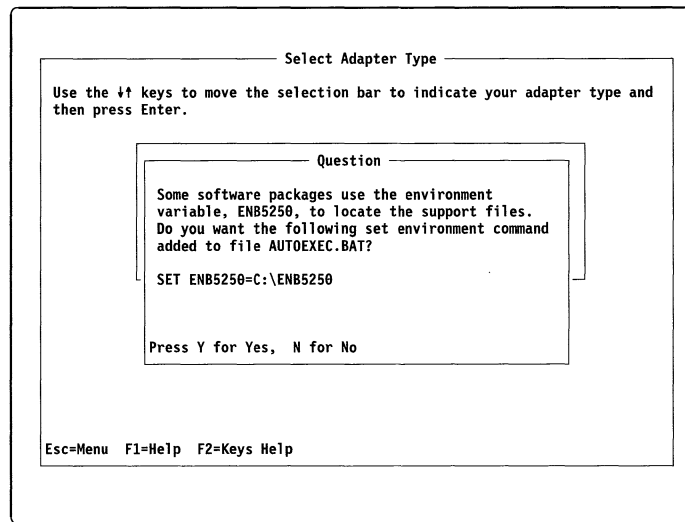

Figure 15. Configuration Prompt
- From the Select Adapter Type screen, select the IBM 5250 Express PC Card option. The configuration program might use questions or messages, similar to the one shown in Figure 15, to prompt you for information.